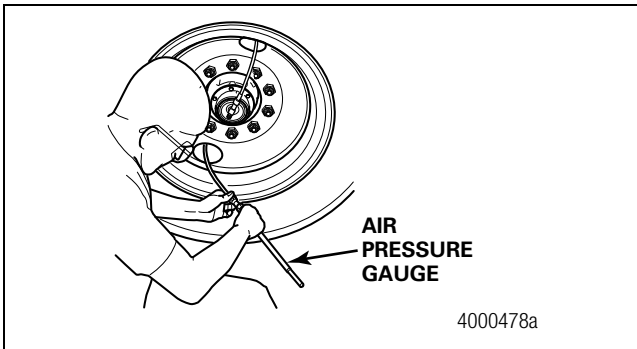
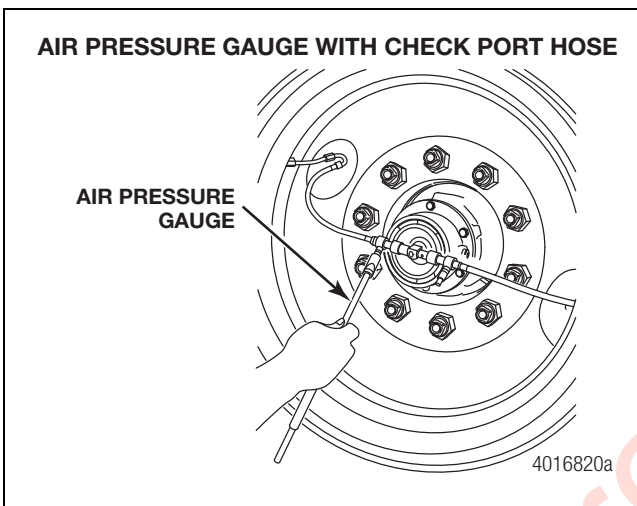

Figure 4.4
Figure 4.5
5. Use an accurate air pressure gauge to check the tire pressure at the system hoses. Figure 4.4 and Figure 4.5.